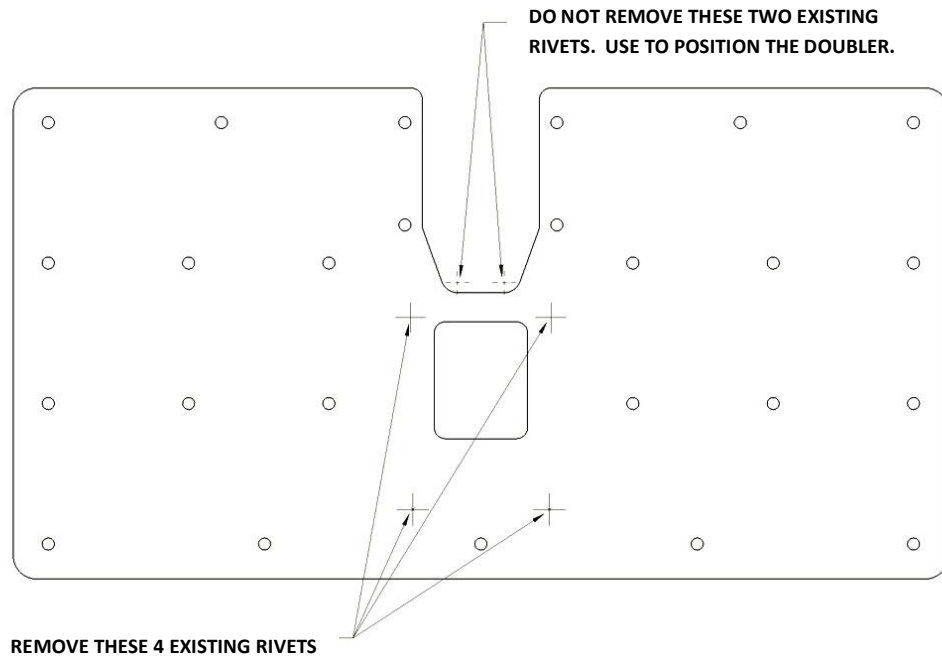
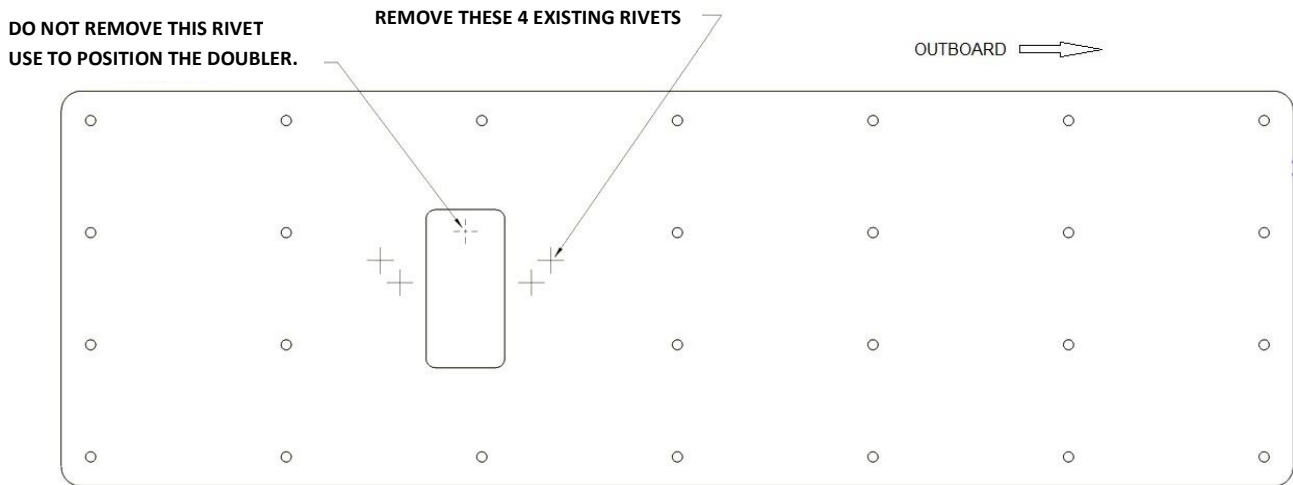
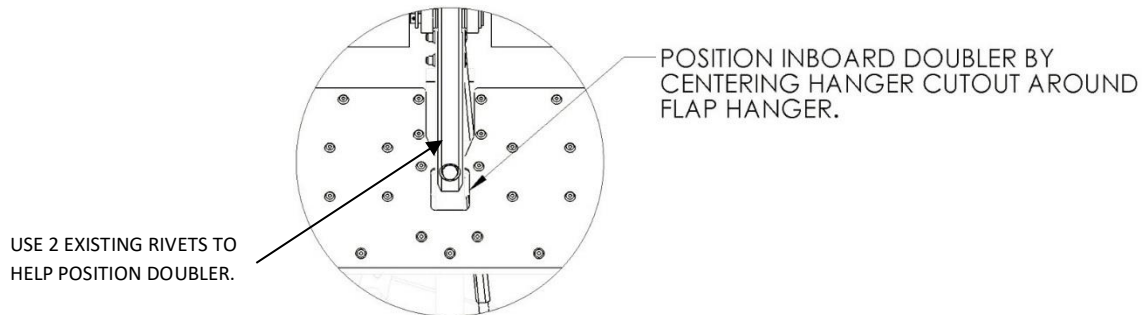

Figure 1: Four rivets to drill out in inboard flap false spar
Figure 2: Four rivets to drill out in outboard flap false spar (RH shown, LH mirrored)
Figure 3: Inboard False Spar Doubler Position
4. If the wing is covered, remove the fabric around the four existing rivets around the flap hangar on the inboard false spar. Drill out these rivets with a #30 drill. Figure 1 shows drawing of the hole template for the inboard false spar doubler (as viewed from behind if held up in position to the trailing edge of the wing), which indicates the approximate location of the four rivets to remove. Do not remove the two rivets just above the flap hangar. Do not remove the two rivets just above the flap hangar.
- Also, if the wing is covered, remove the fabric around the four existing rivets beside the flap hangar on the outboard false spar. Drill out these rivets with a #30 drill. Figure 2 shows the drawing of the hole template for the outboard false spar doubler (as viewed from behind if it were held up in position to the trailing edge of the wing), which indicates the approximate location of the four rivets to remove. Do not remove the single rivet just above the flap hangar.
6. Locate the inboard and outboard false spar doublers (PSTOL-0066, and PSTOL-0065) on the false spar per drawing PSTOL-001. Carefully position the doublers on the false spar by centering the flap hanger in the cutout in the doubler and fitting the curve of the doubler to the false spar (it may be necessary to hand form the doublers slightly to ensure a tight match up to the curve of the false spar without any gaps). Make sure the 2 rivets remaining on the inboard flap hanger and the single rivet remaining in the outboard flap hanger are centered in the doubler cutouts as shown above in Figure 1 and Figure 2. Figures 3 and 4 below show the detail views from drawing PSTOL-001 for positioning the false spar doublers.